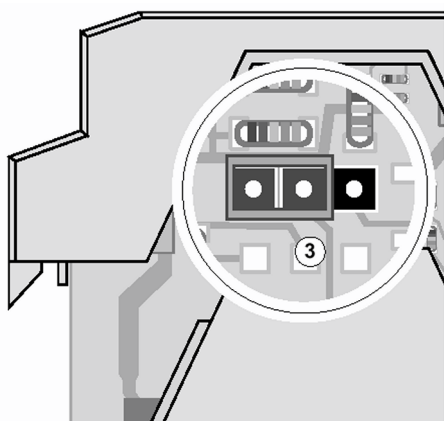

Figure 8 Setting the jumper
- Loosen the fastenings on both sides of the upper part of the housing using a screwdriver ①.
- Pull out the upper part of the housing and the electronics approximately 3 cm ②.
Setting the Jumper (see ③ in Figure 8)
(corresponding to the module view in Figure 8):